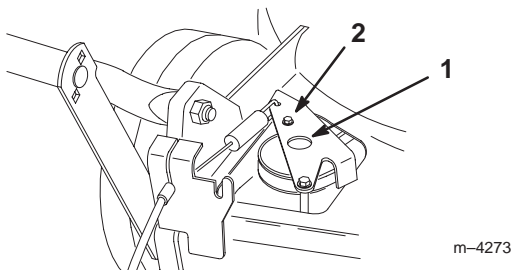

Figure 25
4. Push down on the drive bracket until it contacts the lawn mower, then hold it in place (Fig. 25).